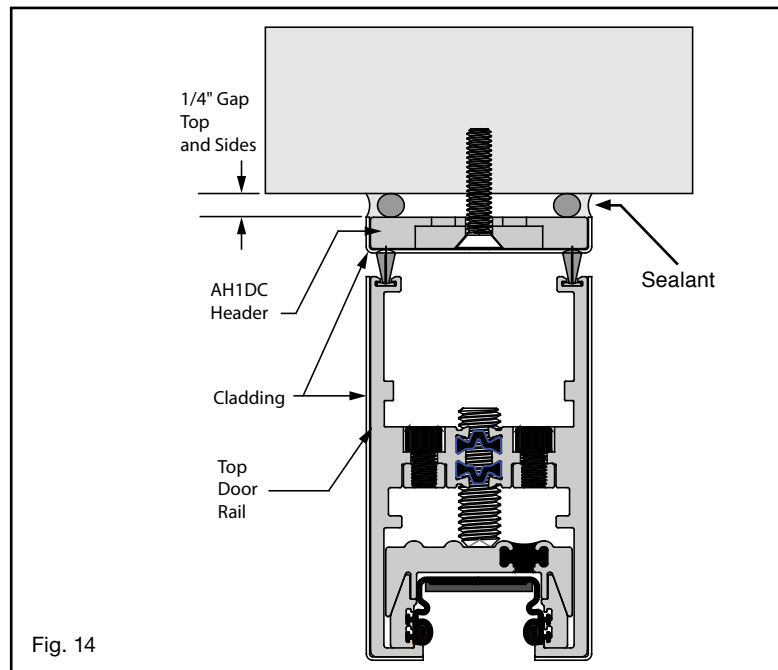

Fig. 14
2. Use 1/4" shims between header and wall to plumb frame and maintain a 1/4" gap. Shims should be placed so that they straddle each fastener to avoid dips in the header from over tightening. **(Figure 14)**